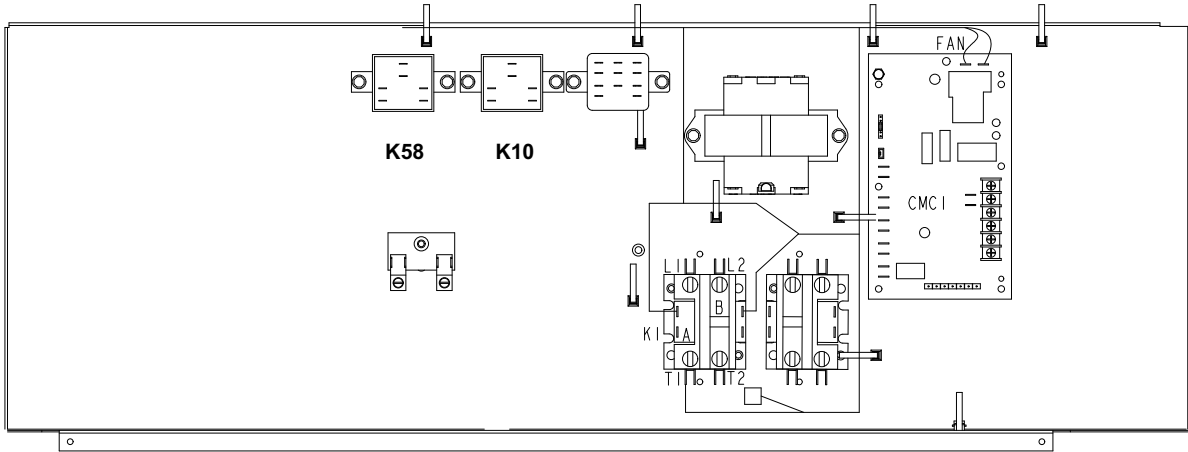

FIGURE 3
- 6- *ZH Units Only* - Install the kit relay in location shown in figure 3. Secure with screws provided in kit.